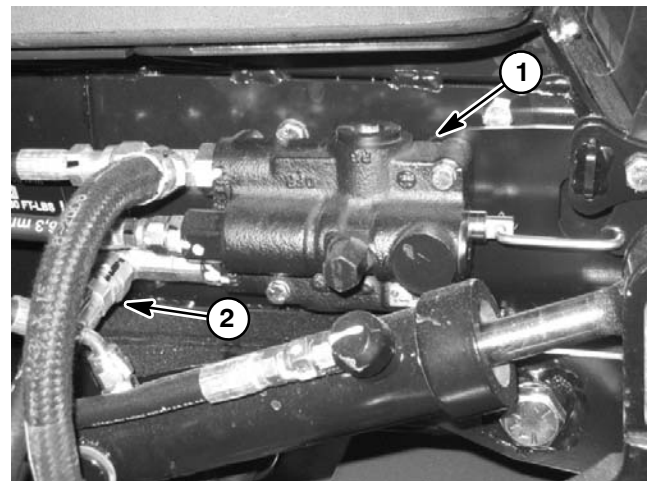

Figure 25
6. Disconnect hydraulic hose from lower fitting on rear of lift control valve (Fig. 25). This hose is from the gear pump outlet and provides oil flow to the lift control valve.